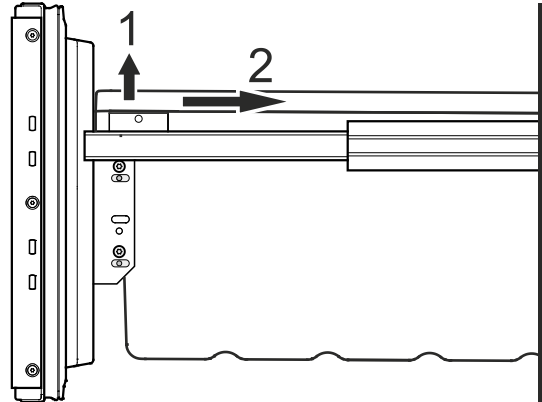

Figure 16
- Unlatch the container on the left and right corners by pulling upwards (1) - **Figure 16**.
- Slide the container backwards (2) - **Figure 16**.